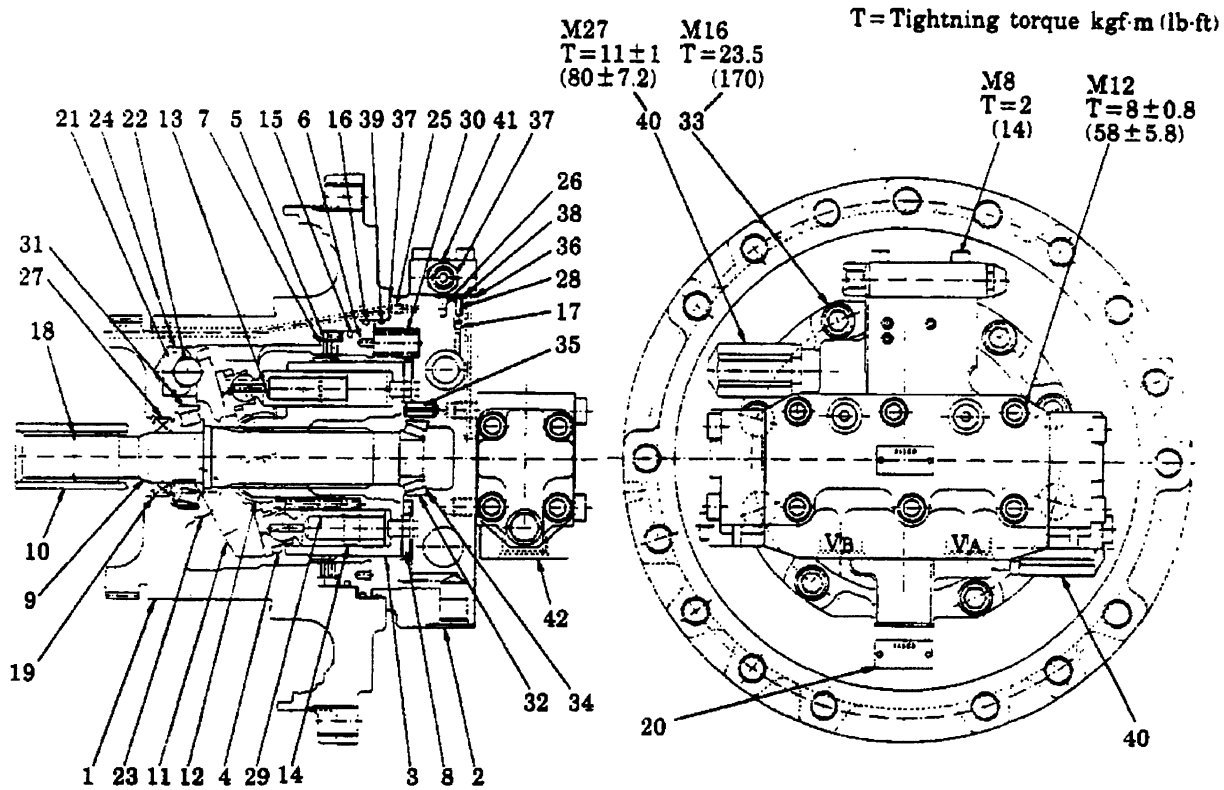

Fig. 2 Cross-sectional view of motor
High hydraulic pressure delivered by the hydraulic pump enters the motor through the oil inlet of rear cover (2) and is admitted to cylinder block (3) past valve plate (8). Table 2 shows oil inlet, discharge and output shaft's rotating directions. (Refer to Fig.2 about port.)